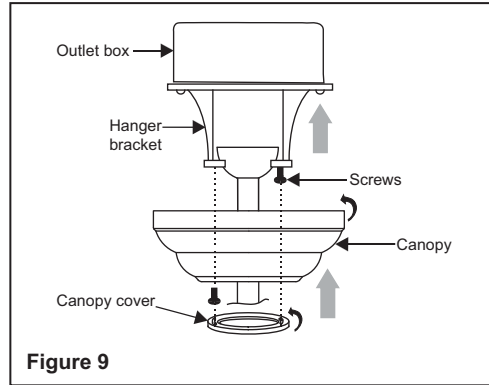

Figure 9
**Step 2.** Slide the canopy up to mounting bracket and place the key hole on the canopy over the screw on the mounting bracket, turn canopy until it locks in place at the narrow section of the key holes. (Fig. 9)